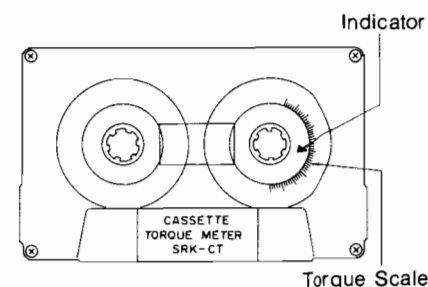

FIG. 16
4. Read "►" mark of indicator on take-up side, as shown in Fig. 16.